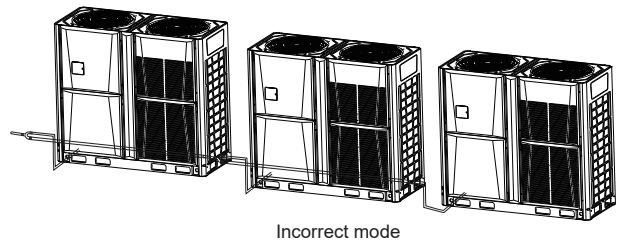

Fig. 4.9 Mode 4
- 2) Tubes for outdoor units cannot be higher than the tube interface of each unit, as shown in Fig. 4.9.